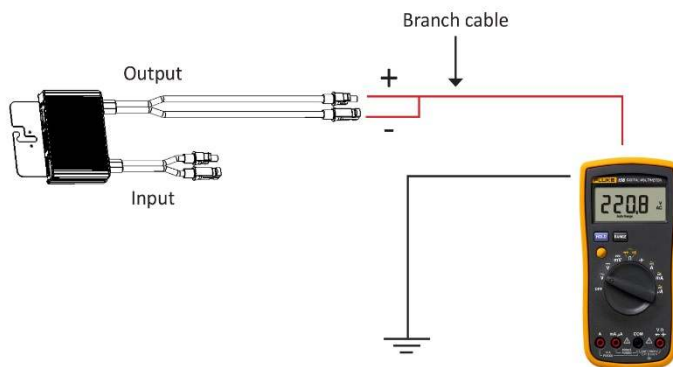

Figure 4: Connecting the insulation tester to the power optimizer
- b. Connect the power optimizer's positive and negative *output* connectors to the branch cable (see Figure 4).